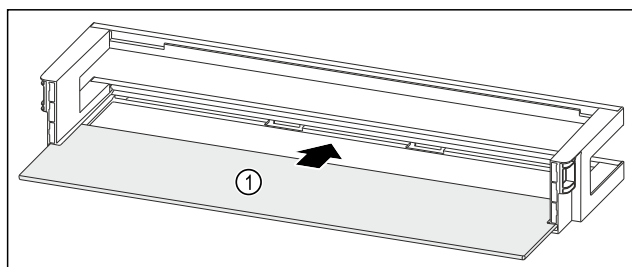

Fig. 200 Door rack with shelf
- Push the shelf Fig. 200 (1) into the side recesses.